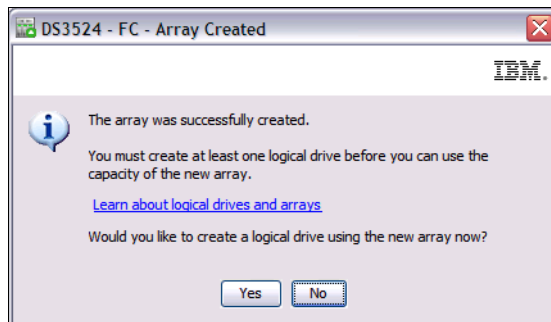

Figure 9-8 Array Created
4. The Array Success window (Figure 9-8) appears and confirms that the array is now created. You can click **Yes** to continue with the creation of a logical drive (see 9.4.1, “Create logical drive” on page 233). Select **No** to finish for now.